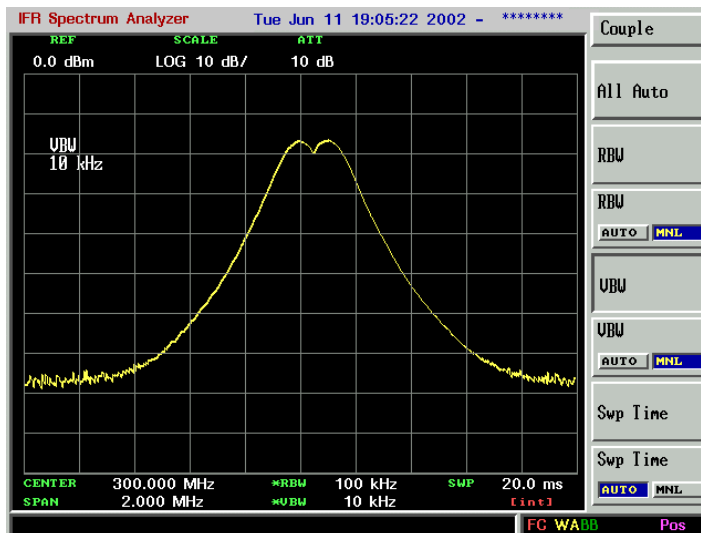

Figure 2-4. Resolving Signals of Equal Amplitude
Generally, to resolve two signals of equal amplitude, the resolution bandwidth must be less than or equal to the frequency separation of the two signals. If the bandwidth is equal to the separation and the video bandwidth is less than the resolution bandwidth, a dip of approximately 3 dB is seen between the peaks of the two equal signals, and it is clear that more than one signal is present. See Figure 2-4.
- Since the resolution bandwidth must be less than or equal to the frequency separation of the two signals, a resolution bandwidth of 100 kHz must be used. Change the resolution bandwidth to 100 kHz by setting **RBW, 100 kHz**. Two signals are now visible as shown in Figure 2-4. Use the knob or step keys to further reduce the resolution bandwidth and better resolve the signals.